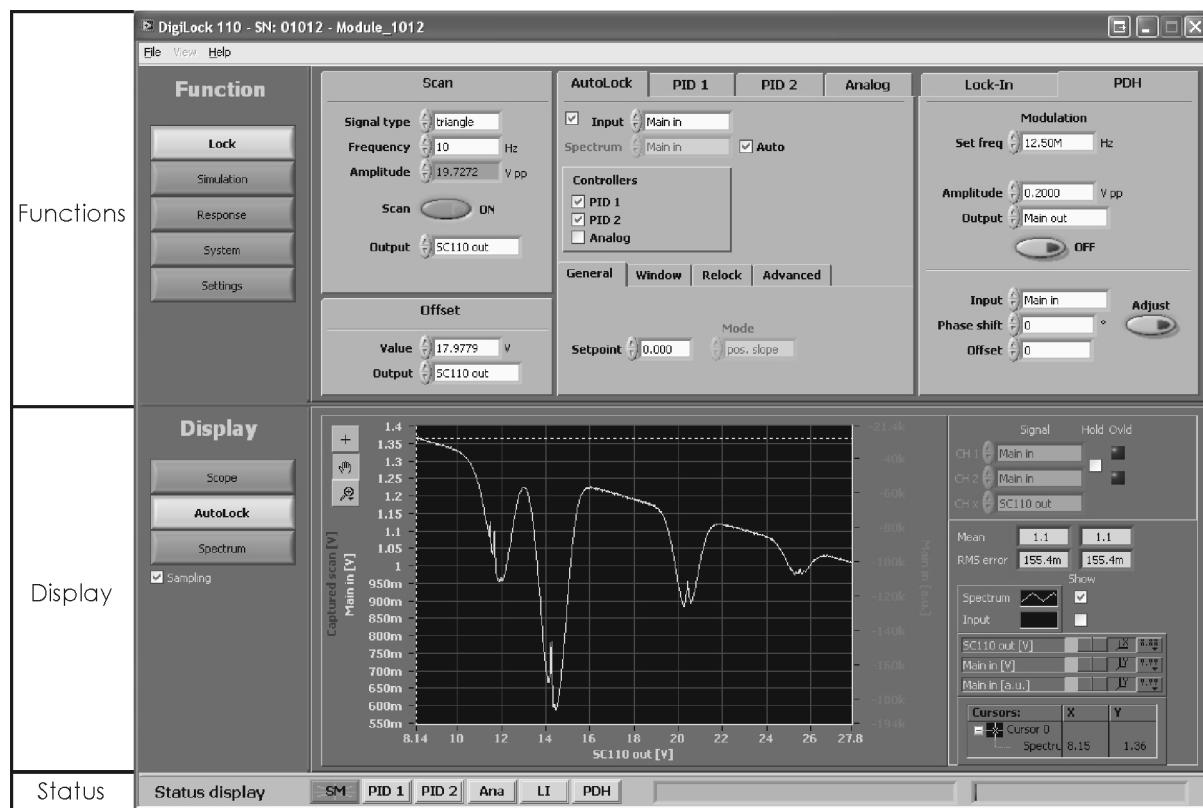

Figure 35 DigiLock User Interface (DUI) after Startup.
6. When all connections are established, switch on the DigiLock 110, connect the USB port to the PC and start the software. Afterwards turn on the Temperature and Current Control (DTC 110 and DCC 110) as well as the SC 110 and switch on the laser. After a few minutes the laser will thermally stabilize¹⁰. Adjust the parameters I_{set} and T_{set} in order to get stable single mode cw operation. Figure 35 shows the user interface software after startup. All parameters of the DigiLock 110 can be reset by loading the default profile: Functions/Setup->Load profile. For the standard path to the default profile (DigiLock-Profile_default.pro) see Paragraph 11.4.
11. The photodetector signal connected to the Main in (4) connector on the DigiLock 110 front panel can be examined in the Scope display (shown in the lower part of Figure 35).